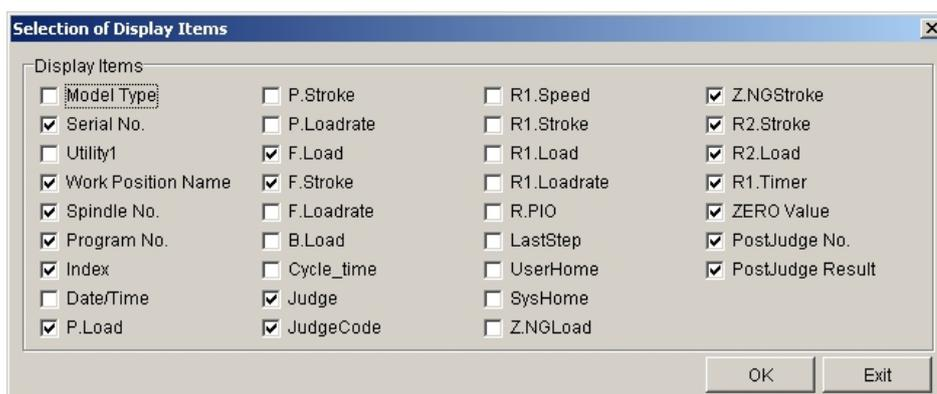

Fig. 7-2-2 Display item selection screen
| (4) | Display item | The screen for setting up the display item of the screen opens.(Fig. 7-2-2) |